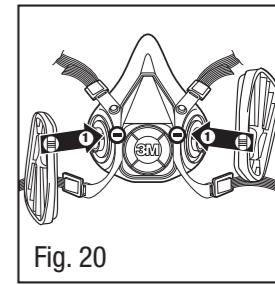

Fig. 20
- Align notch on edge of 603 adapter with facepiece mark as shown (Fig. 20).